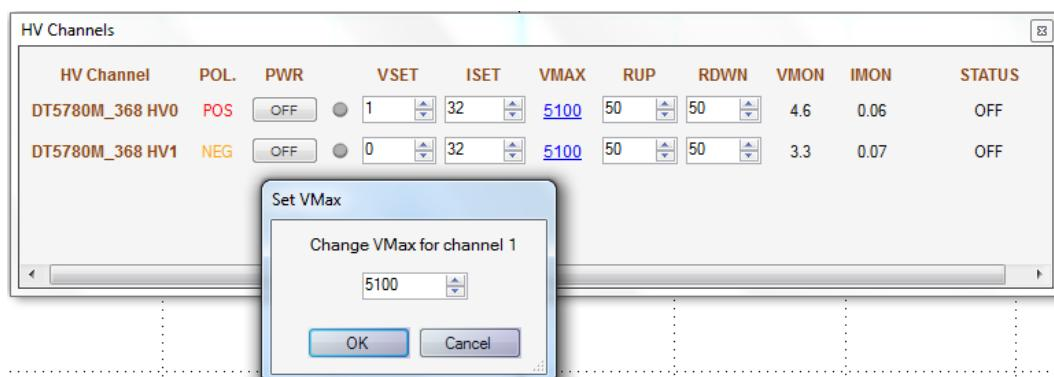

Fig. 4.16: The High Voltage Window with the “Set VMax” Dialog Box overlapping
- **VMAX:** Displays the Maximum High Voltage allowed on the corresponding channel. When the pointer is on the underlined figure, a small note window will display the value unit (Volts). The Maximum Allowed High Voltage Output can be modified by the user by left clicking on the value number. The Set VMax Dialog Box will appear (see Fig. 4.16):